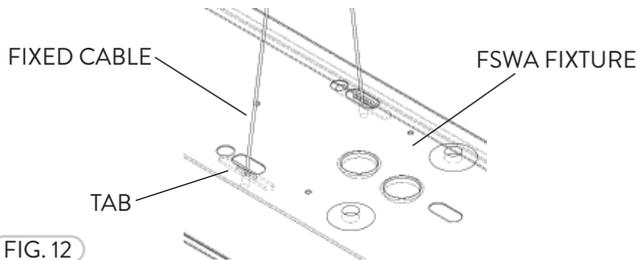

FIG. 12
- 3 Once the tabs have been inserted, the FSWA fixture will be safely secured in place for mounting (Fig. 12).